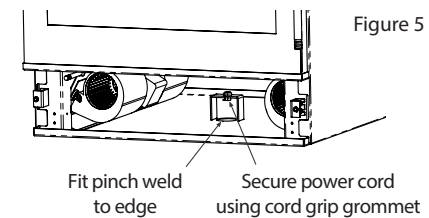

Figure 5
- Secure the power cord to in the base of the unit using the cord grip grommet, as shown in figure 5.